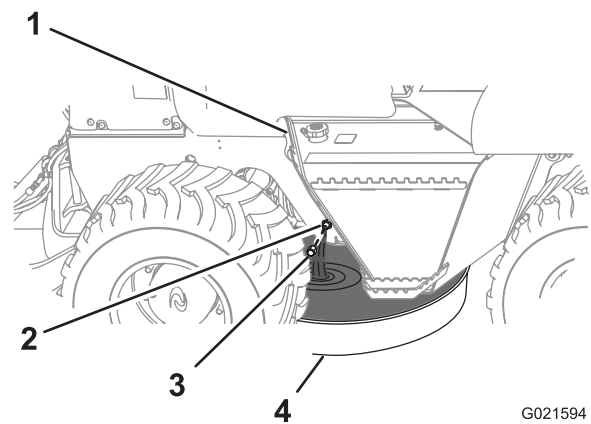

Figure 44
3. Place a drain pan that has a minimum capacity of 8.4 L (8.9 US qt) under the engine-oil drain fitting (Figure 44).
4. Remove the cap from the drain fitting and allow the engine oil to drain completely (Figure 44).
- Install the cap onto the drain fitting (Figure 44).
- Remove the oil-fill cap from the filler neck by pulling the cap upward (Figure 44).